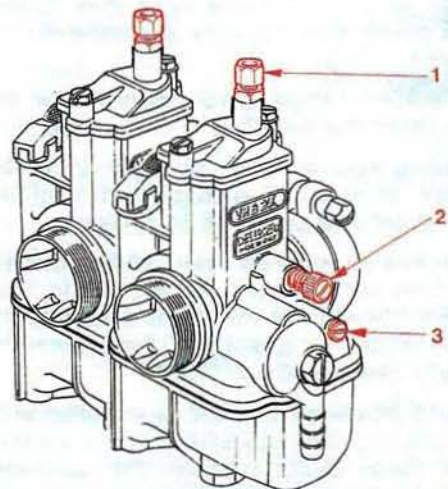
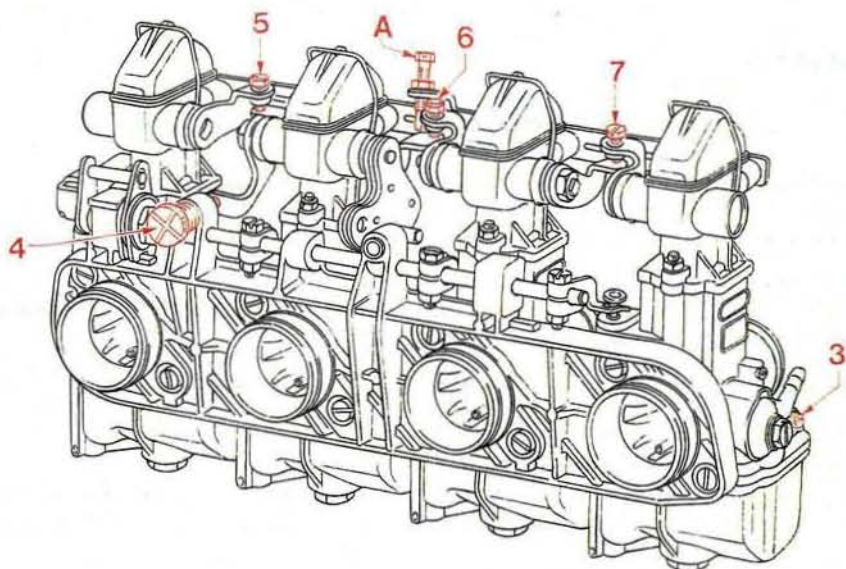

fig. 31
fig. 32
- with carburetors **separated** (figure 31) and therefore with a throttle cable each.
- with carburetors **mounted together** in a rigid group by means of a suitable flange (figure 32) and with a single control cable.
Make sure, both for independent (figure 31) and grouped carburettors (figure 32), that each throttle cable has about 1mm free play at idle.
- start the engine and when it has reached normal running temperature, adjust the idle speed to about 1000 rpm using the throttle adjusting screw (2) in figure 31 or screw (4) in figure 32.
- for independent carburettors (figure 31) align the mercury column levels using the throttle adjusting screws (2) on each carburettor.
- for carburettors mounted together in a group (figure 32) align the mercury column levels with the level of the carburettor connected directly to the throttle control, adjusting the balance-adjusting screws (5), (6), (7).
- then adjust the mixture screws (3) of each carburettor to obtain the fastest even running.
- recheck the alignment of the mercury columns and then reset the engine to the desired idle speed using the throttle adjusting screw (2) in figure 31 or screw (4) in figure 32.
- for independent carburettors (figure 31) check that the alignment of the mercury columns is unaffected by slightly opening the throttle. If it is, adjust the individual cable-adjuster screws (1) to correct this.